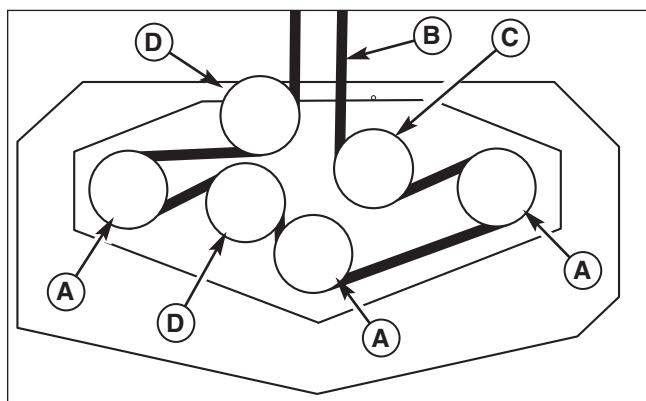

Figure 41. Mower PTO Belt Routing
4. Slide the drive belt over the edge of the stationary idler pulley (B). Carefully release the tension on the breaker bar.
5. Remove the old belt and replace with a new one. Make sure the V-side of the belt runs in the pulley grooves (Figure 41).